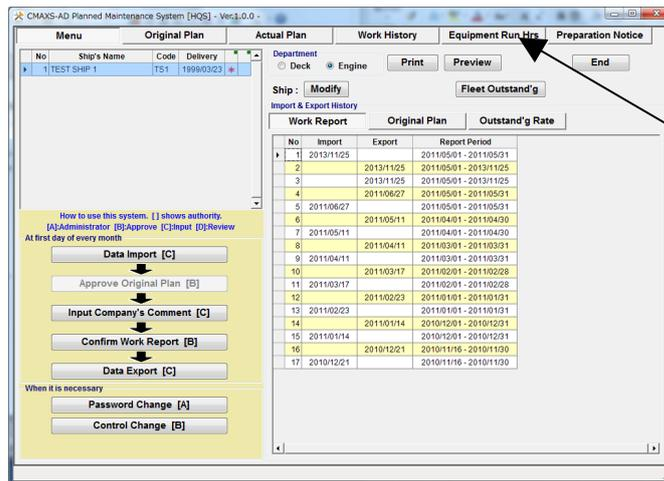

Fig.10-1 Menu Screen
(1) On the "Menu Screen"(Fig.10-1), select [Equipment Run Hrs] tab.